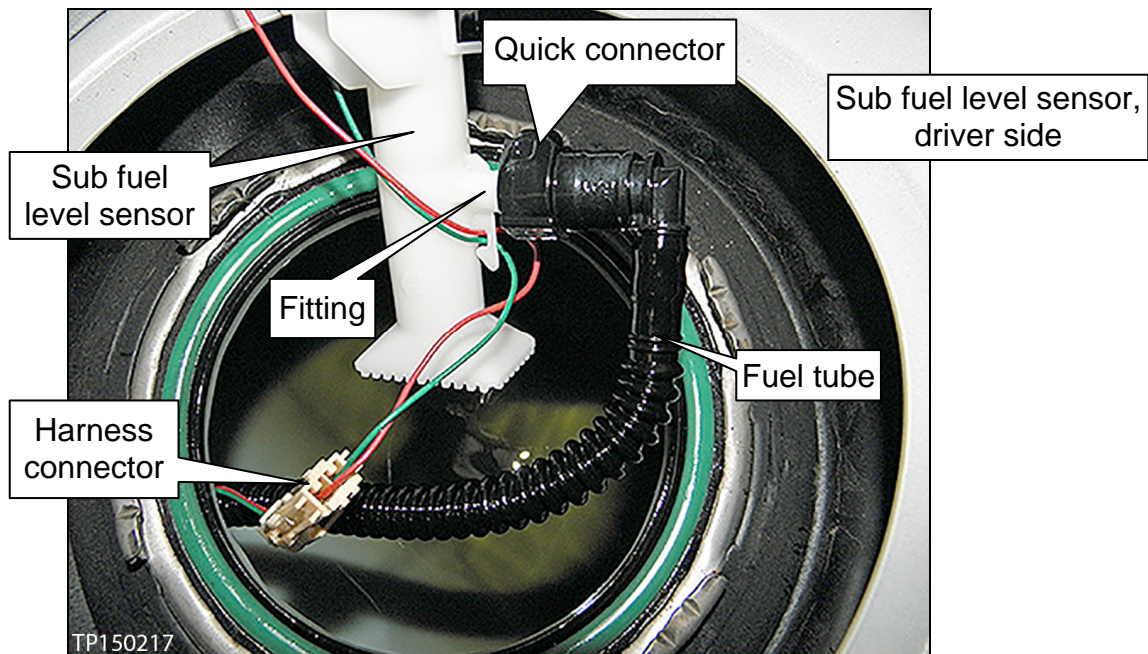

Figure 17
28. Connect the quick connector and harness connector to the sub fuel level sensor (Figure 17).